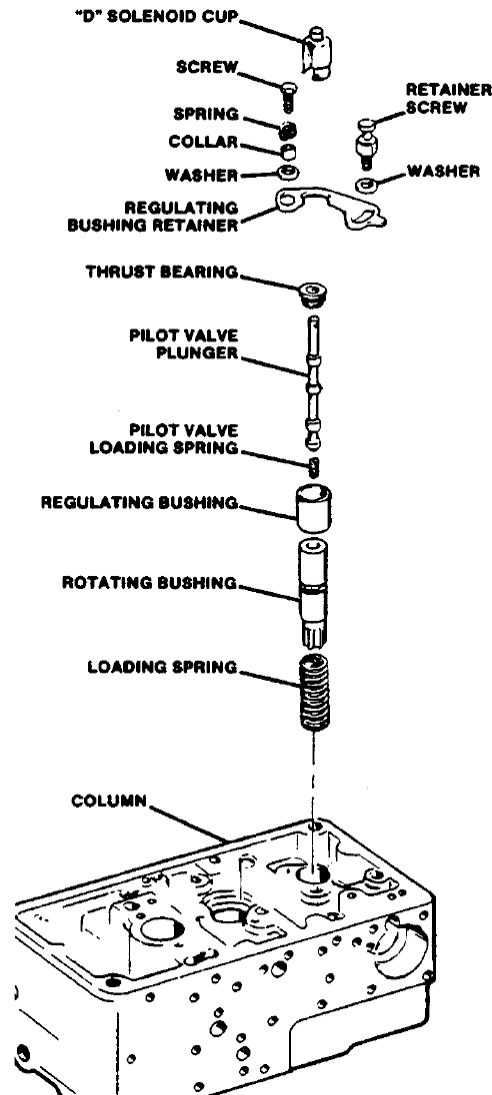

Figure 5-54. Speed Setting Valve
30. Insert loading spring, rotating bushing, regulating bushing, small pilot-valve loading spring, pilot-valve plunger, and thrust bearing (Figure 5-54). Install thrust bearing with large race on top.